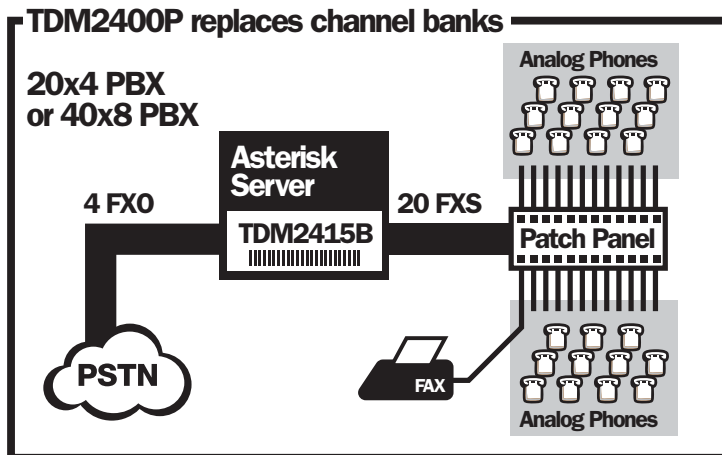

Figure 1: Sample Application - Channel Bank
- Figure 1: Sample Application - Channel Bank 15